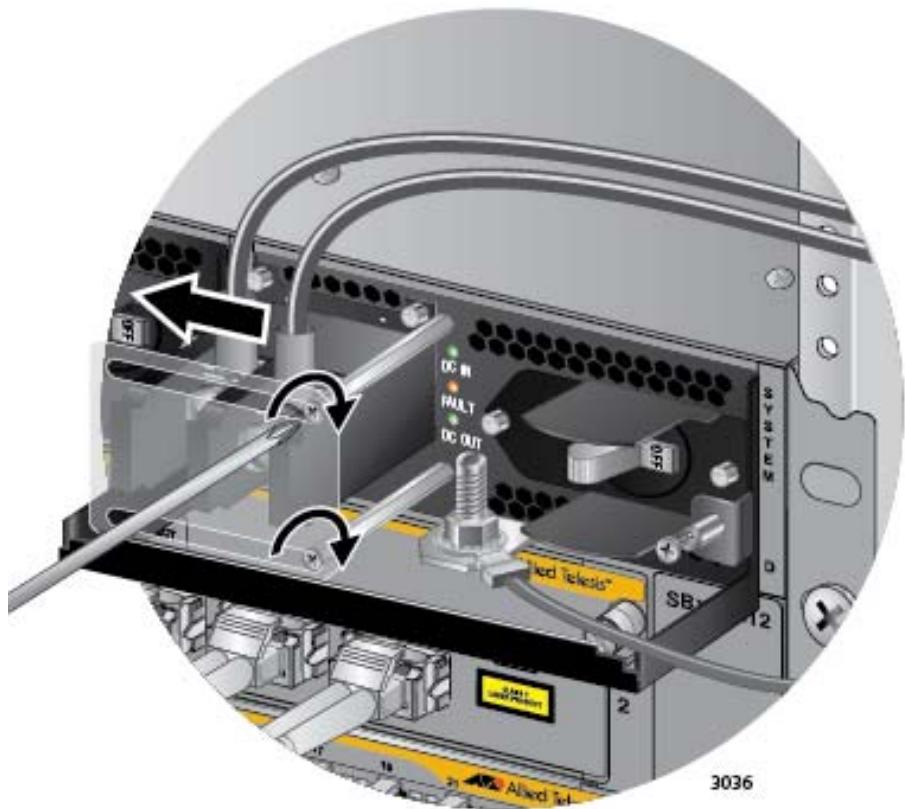

Figure 116. Closing the Plastic Cover over the Terminal Connectors
8. Slide the plastic cover to the left and lightly tighten the two screws with a #1 Phillips-head screwdriver to secure the cover. See Figure 116 on page 163. You might need to lift the locking handle slightly to access the bottom screw.
6. Slide the plastic cover to the left and lightly tighten the two screws with a #1 Phillips-head screwdriver to secure the cover. See Figure 116 on page 163. You might need to lift the locking handle slightly to access the bottom screw.